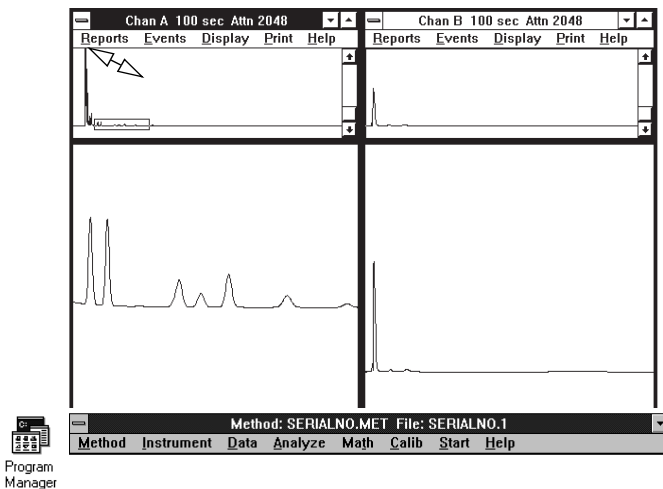

Figure 13 Using double headed arrow
1. Place the single-headed cursor on a vertical border of any window displayed on the screen. When the cursor rests on the border it will change from a single headed to a double headed arrow. (See Figure 13) This may take a bit of practice as the borders are narrow and easy to overshoot.